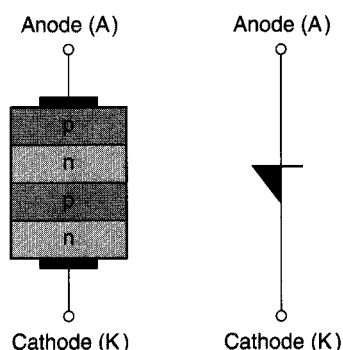

FIGURE 20.1
The simplest of the thyristors is the **silicon unilateral switch (SUS)**. The SUS is a two-terminal, four-layer device that can be triggered into conduction by applying a specified forward voltage across its terminals. The construction of the SUS (along with its schematic symbol) is shown in Figure 20.1. As you can see, the device contains two *n*-type regions and two *p*-type regions. Because of its construction, the SUS is often referred to as a *pnpn diode* or a *four-layer diode*. Note that the term *diode* is considered to be appropriate because the device has two terminals: an *n*-type *cathode* (K) and a *p*-type *anode* (A).